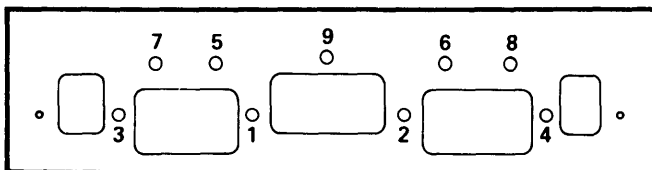

Fig. 1 Intake Manifold Tightening Sequence (VIN 1)
2) Tighten manifold-to-cylinder head bolts following torque sequence. See Fig. 1. Reverse removal procedure to complete installation.